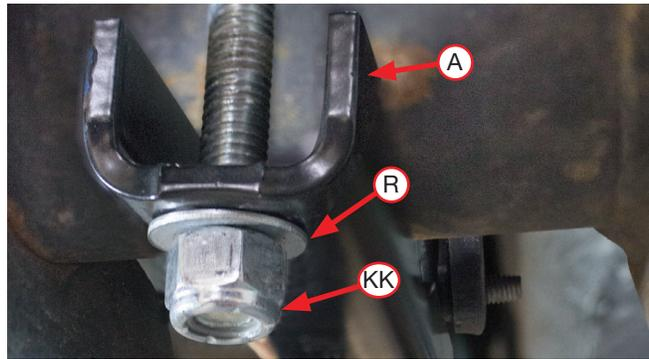

Fig. 37
If you have a sway bar, insert the carriage bolts through the clamp bar (A) as you set the assemblies into position over the axle (see Fig. 37).
8. If not already completed (sway bar noted earlier), set the lower clamp bars (A) over the carriage bolts located under the axle (Fig. 37). Attach with 3/8" flat washers (R) and nylon lock nuts (KK). Evenly torque the lower clamp bar hardware to 16 lb.-ft. (22Nm).